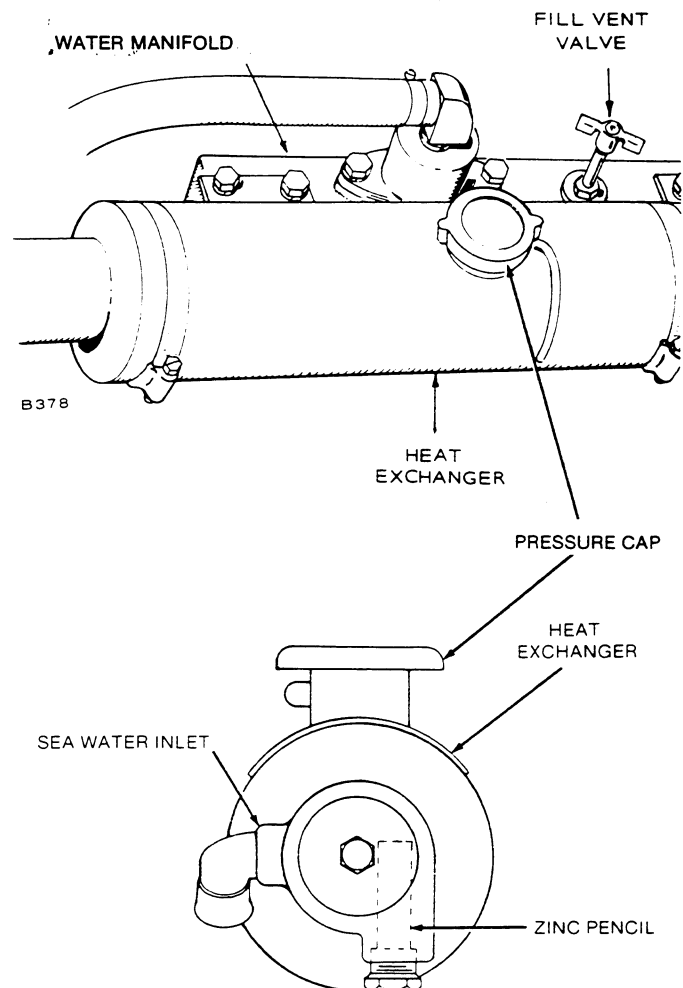

FIGURE 24. FILLING HEAT EXCHANGER/ZINC PENCIL LOCATION
2. Open the fill vent valve (Figure 24).
The sea water side of the heat exchanger is protected from corrosion by a zinc pencil mounted on a pipe plug. It is located close to the sea water inlet connection on the end of the heat exchanger (Figure 24). The pencil should be inspected at least every two months and replaced if deteriorated to less than 1/2 inch (13 mm). This schedule applies only when craft is used on salt sea water.